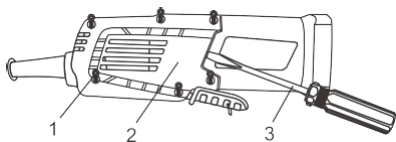

Fig. 8
3. Lay the tool on its left side on a towel or on cardboard (Fig. 8).
4. Remove 6 screws (1) from the right-hand side of the handle using a #2 screwdriver.
5. Carefully pry off the right half of the handle (2) using a small slot screwdriver (3).